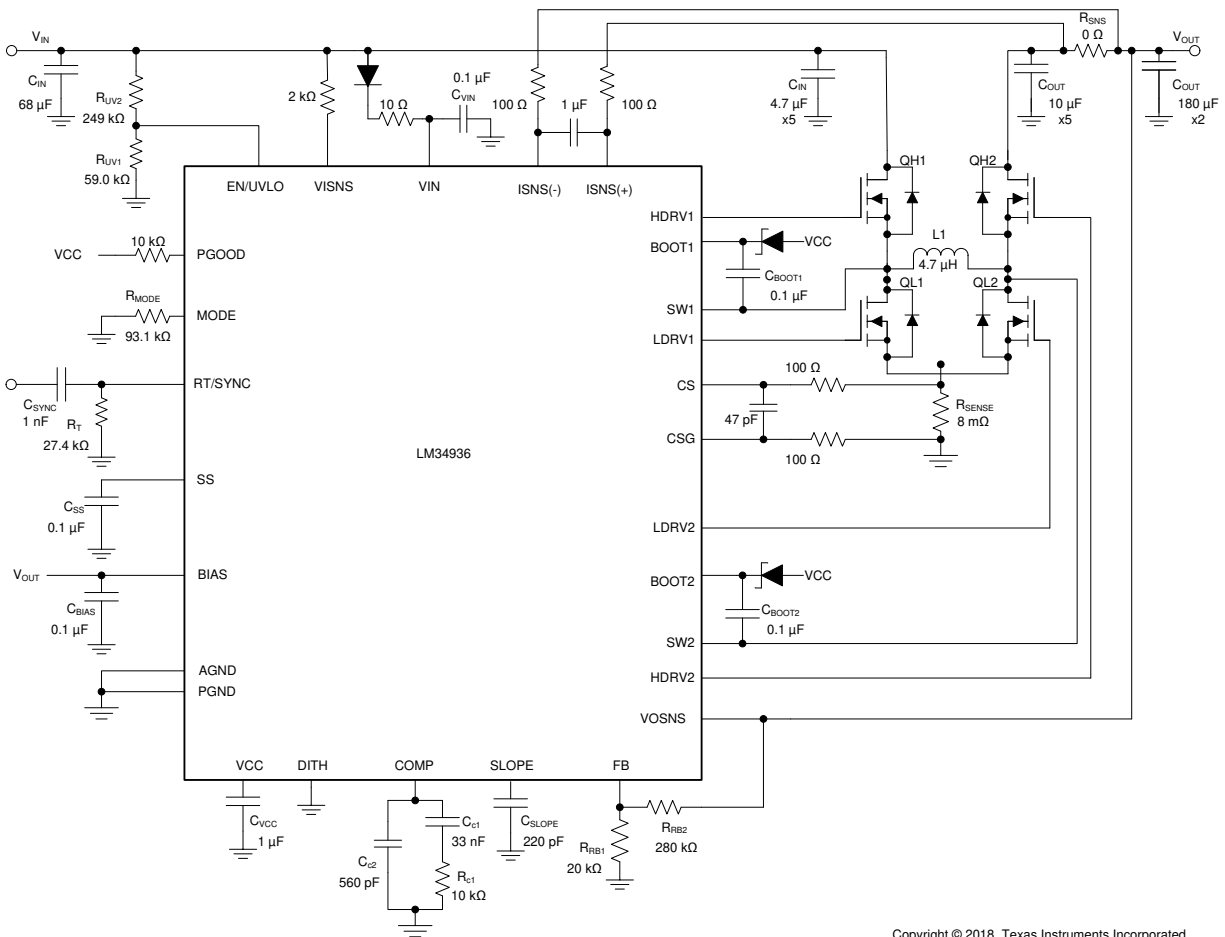

Figure 8-1. LM34936-Q1 Four-Switch Buck Boost Application Schematic
A filter network as shown in Figure 8-1 is often used across the ISNS(+) and ISNS(–) pins to filter the ripple in the average current sense signal.
For applications where the input voltage is higher than 28 V, a 2-k Ω resistor in series with the VISNS pin is required as shown in Figure 8-1.
The LM34936-Q1 has a gm error amplifier for loop compensation. The gm amplifier output (COMP) range is 0.3 V to 3 V. Connect an R_{c1} - C_{c1} compensation network between COMP and ground for type II (PI) compensation (see Figure 8-1). Another pole is usually added using C_{c2} to suppress higher frequency noise and switching frequency ripple.
The low-side gate drivers are powered from VCC and the high-side gate drivers HDRV1 and HDRV2 are powered from bootstrap capacitors C_{BOOT1} (between BOOT1 and SW1) and C_{BOOT2} (between BOOT2 and SW2), respectively. The C_{BOOT1} and C_{BOOT2} capacitors are charged through external Schottky diodes connected to the VCC pin as shown in Figure 8-1.
Typically, a combination of ceramic and bulk capacitors is needed to provide low ESR and high ripple current capacity. The complete schematic in Figure 8-1 shows a good starting point for C_{OUT} for typical applications.
The maximum RMS current occurs at $D = 0.5$, which gives $I_{\text{CIN(RMS)}} = I_{\text{OUT}} / 2 = 3 \text{ A}$. A combination of ceramic and bulk capacitors should be used to provide short path for high di/dt current and to reduce the output voltage ripple. The complete schematic in Figure 8-1 is a good starting point for C_{IN} for typical applications.
For some application circuits, it can be required to add a filter network to attenuate noise in the CS and CSG sense lines. See Figure 8-1 for typical values. The filter resistance must not exceed 100 Ω .